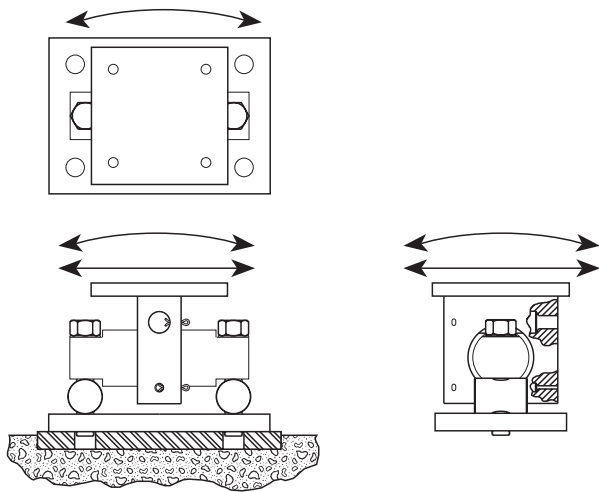

Figure 2-24
- 3) This arrangement allows the chair to move in practically all directions, as illustrated in Figure 2-24, while providing checking in all directions.